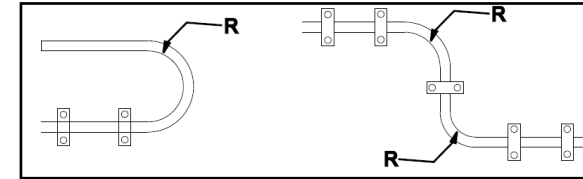

Figure 3
- The bending radius should not be less than 60mm as shown in the Figure 3.